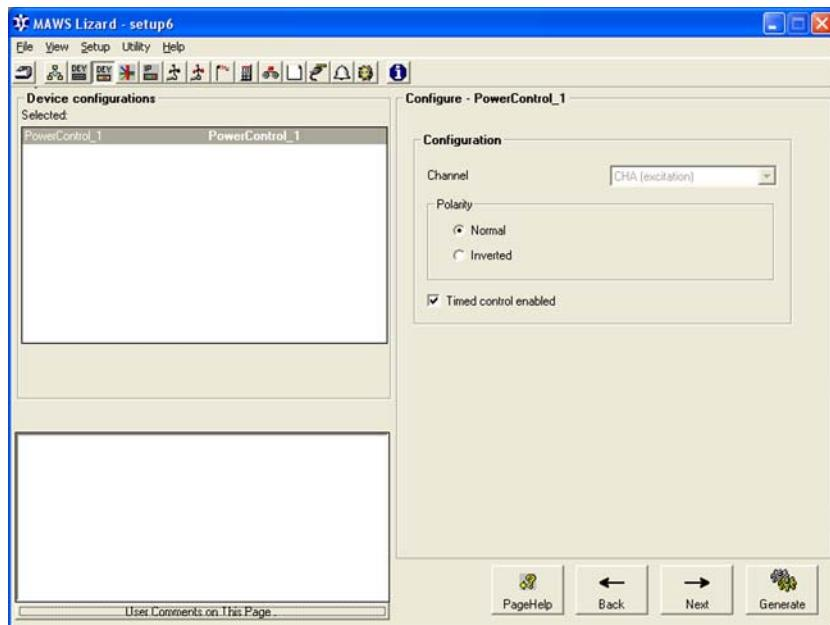

Figure 77 Device Configurations View: Configuring Power Control Option
4. Proceed to the **Device configurations** view, as shown in Figure 77 on page 164, and configure the polarity and timed-control options.